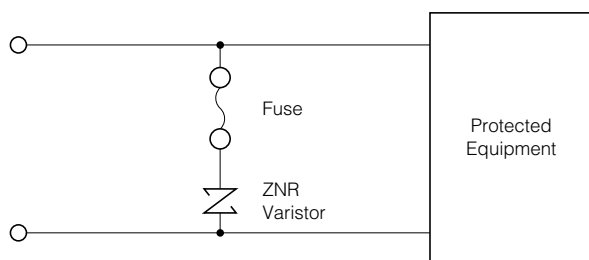

Fig. 2 Alternative Fuse Location/placement for Varistor Protection
2.3.1 When a line current rating is higher than the recommended current rating of the fuse in Table 2, the location of the fuse shall be arranged according to Fig 2.